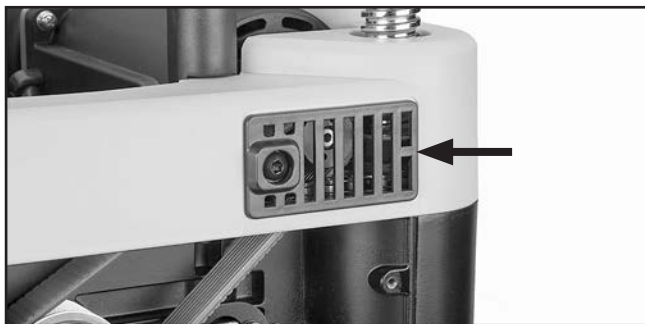

Figure 19. Drive belt cover location.
16. Remove drive belt cover located on right side (see **Figure 19**) and verify that drive belt is centered on drive wheel.